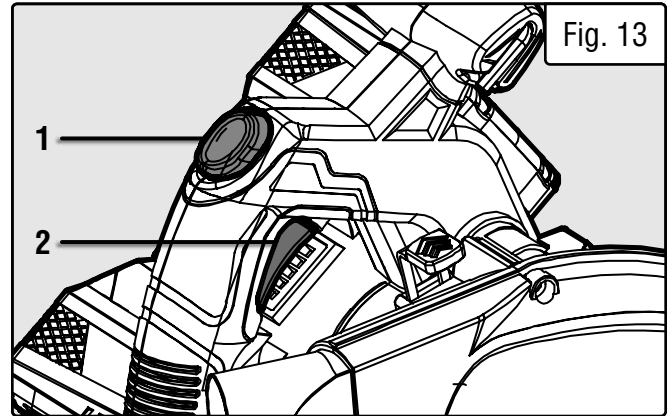

Fig. 13
4. Press the plunge lock button (Fig. 13 - 1) to allow the saw to plunge downwards, while not allowing the blade to actually contact the workpiece.
5. Power the saw on by pulling the trigger switch (Fig. 13 - 2). Allow it to reach full speed.
4. Plunge the saw downwards and complete the cut, see “OPERATING THE SAW” on page 19. After completing the cut, release the power trigger (Fig. 13 - 2) and allow the blade to come to a complete stop before removing the saw from the workpiece.